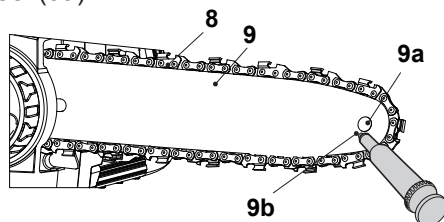

Fig. 38
**NOTE:** It is not necessary to remove the saw chain (8) to lubricate the sprocket wheel (9a). Lubrication can be done on the job.
2. Using a disposable lube gun, insert the needle nose into the lubrication hole (9b) (Fig. 38) and inject grease until it appears at the outside edge of the sprocket wheel (9a).